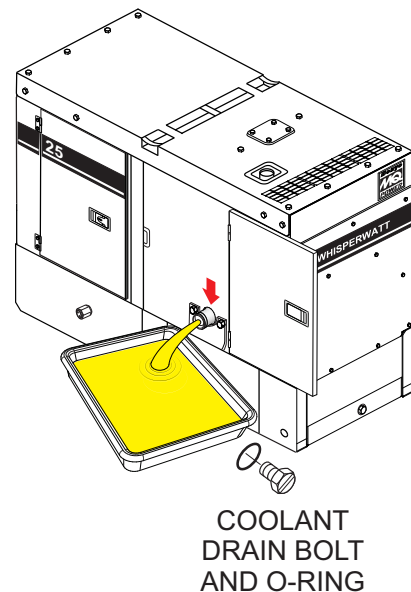

Figure 66. Draining Radiator Coolant
- Open the cabinet door and remove the coolant drain bolt and O-ring (Figure 66), then allow the coolant to drain into a suitable container.